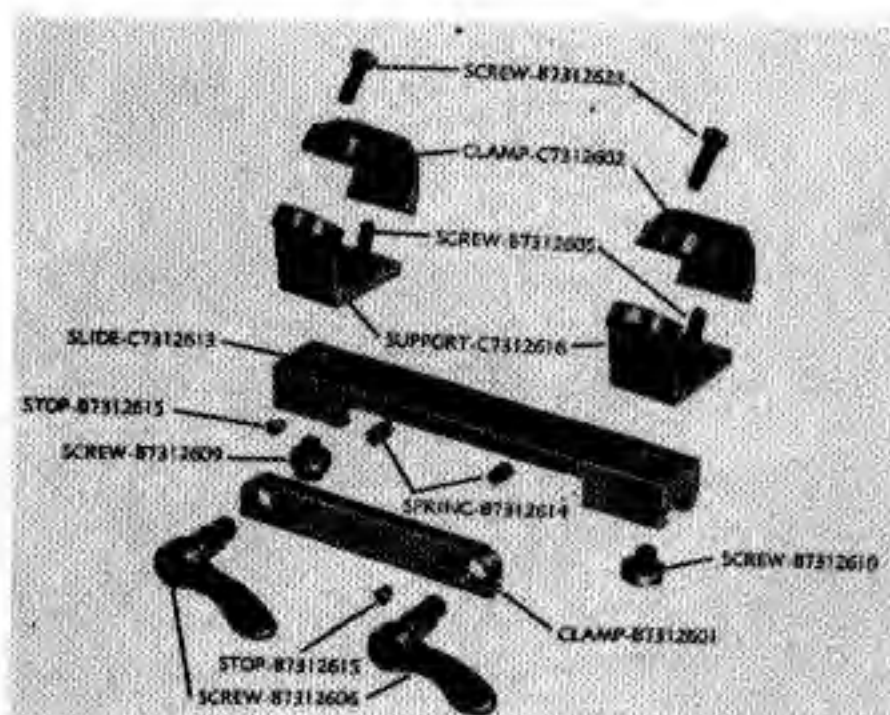

Fig. 129. Scope mount assembly, M1C.
54. Telescope mount, M1C only: (Fig. 129, 130) inspect the scope mount bracket for retention on the receiver and for burrs on male dovetail slides. Inspect slide for function in scope mount bracket, and locking action of slide clamp with locking screws. Check supports for looseness in slide. Inspect screws and screw holes for worn or stripped threads and all recesses for foreign matter.